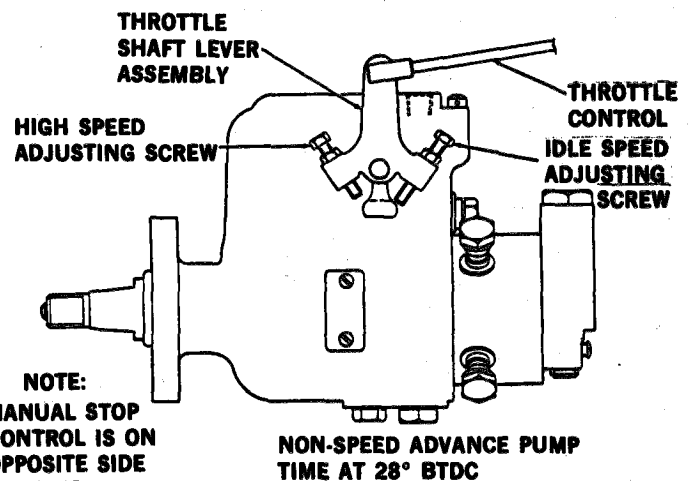

Figure 3-44. Fuel Injection Pump Speed Adjustments
a. Adjust idle speed (650-700 RPM) by loosening adjusting screw locknut and turning adjusting screw in or out as necessary. Refer to figure 3-44.
3-108. Maximum Engine Speed Adjustment. With no load on engine, operate throttle control to full open position. Check full throttle speed. If maximum speed has altered slightly from recommended speed of 2640 RPM, adjust it by loosening adjusting screw locknut and turning high speed adjusting screw in or out as necessary. Refer to figure 3-44. Do not exceed 2640 RPM.